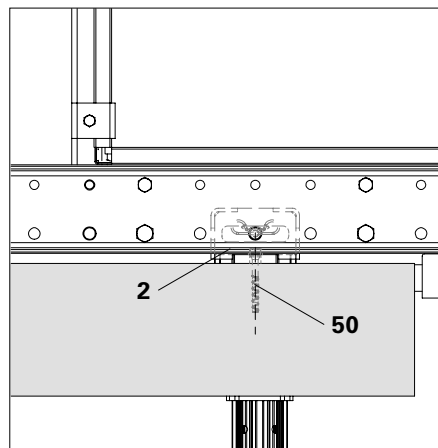

Fig. B1.02a
- Location fixation on the Slab Support Anchor Shoe RCS with the Anchor Bolt PERI 14/20 x 130 (50) and on the MULTIPROP MP using Dowels  $\varnothing 12$  (48). (Fig. B1.02a + B1.02e).